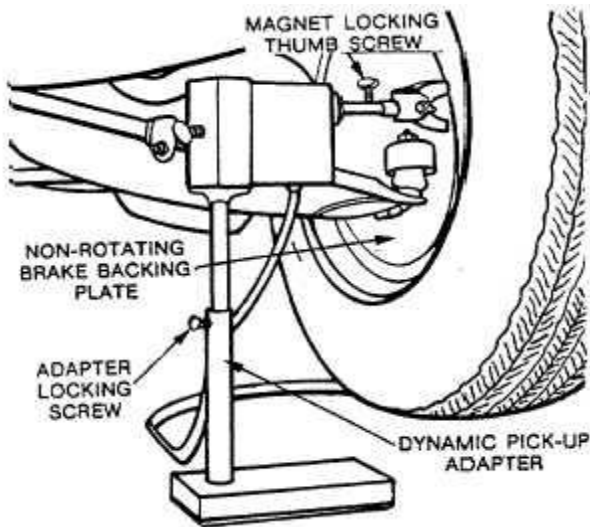

Figure 11. Dynamic Balancing Adapter
3. Insert vibration sensor into adapter so cable extends downward, figure 11. Tighten locking screw to hold sensor securely.
4. Loosen locking screw on adapter extension tube Figure 11, and adjust height so magnet is at spindle height if possible. Tighten locking screw.
5. Loosen magnet locking thumb screw on vibration sensor. Position complete unit so magnet assembly can be extended to contact front portion of brake backing-plate cover directly in front of and in line with the spindle, figure 11. The magnet rod should be parallel to wheel spindle. Tighten locking screw down on magnet rod.